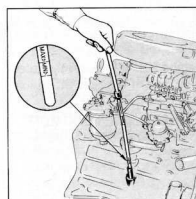

Fig. 13 Checking Engine Oil Level
2. Pull out the dipstick (Fig. 13) and wipe with a clean rag.